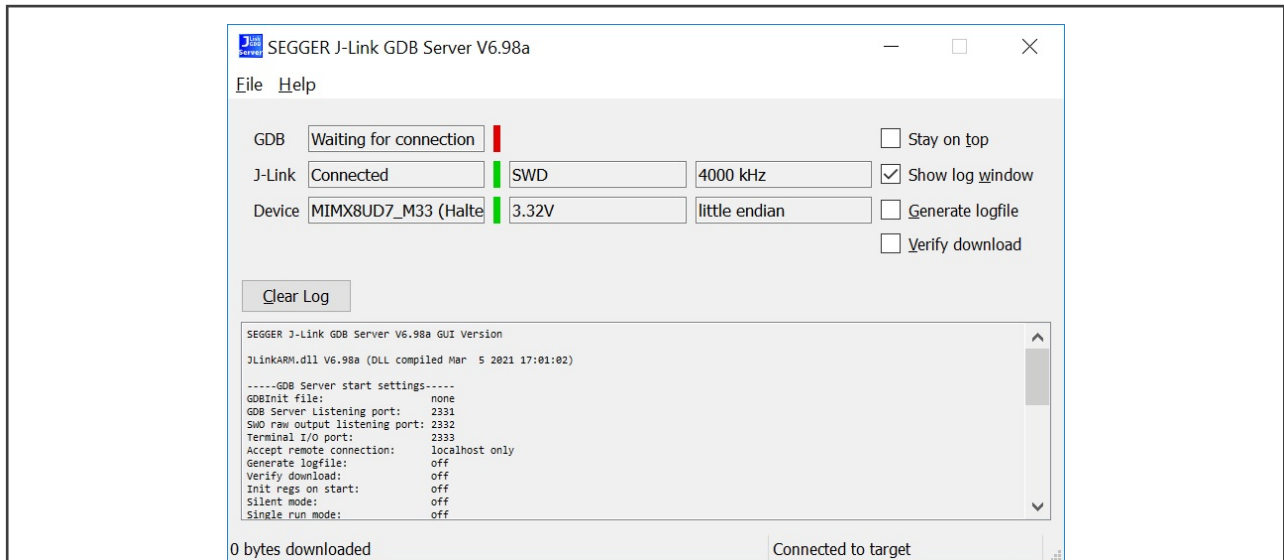

Figure 8. SEGGER J-Link GDB Server screen after successful connection
3. After GDB server is running, the screen should resemble Figure 8.